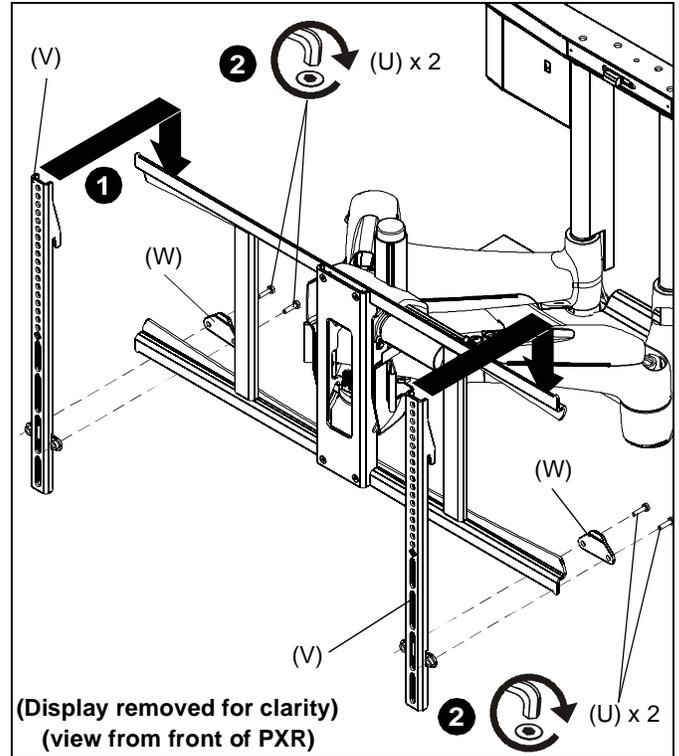
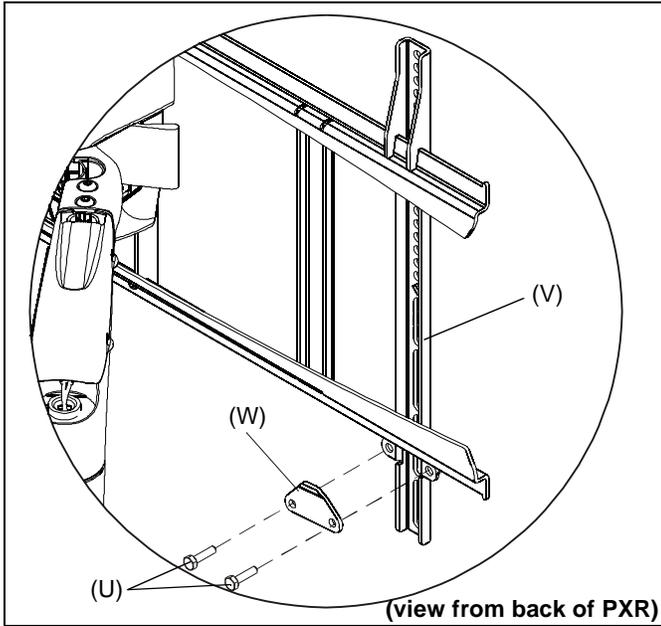

Figure 31
Figure 33
1. Hang display onto the PXR, ensuring that top hooks of interface brackets (V) are hooked over the PXR top rail. (See Figure 31)
- Lock display with attached interface brackets to PXR using two bracket locks (W) and four 1/4-20 x 1/2" hex head cap screws (U). (See Figure 31) and (See Figure 33)